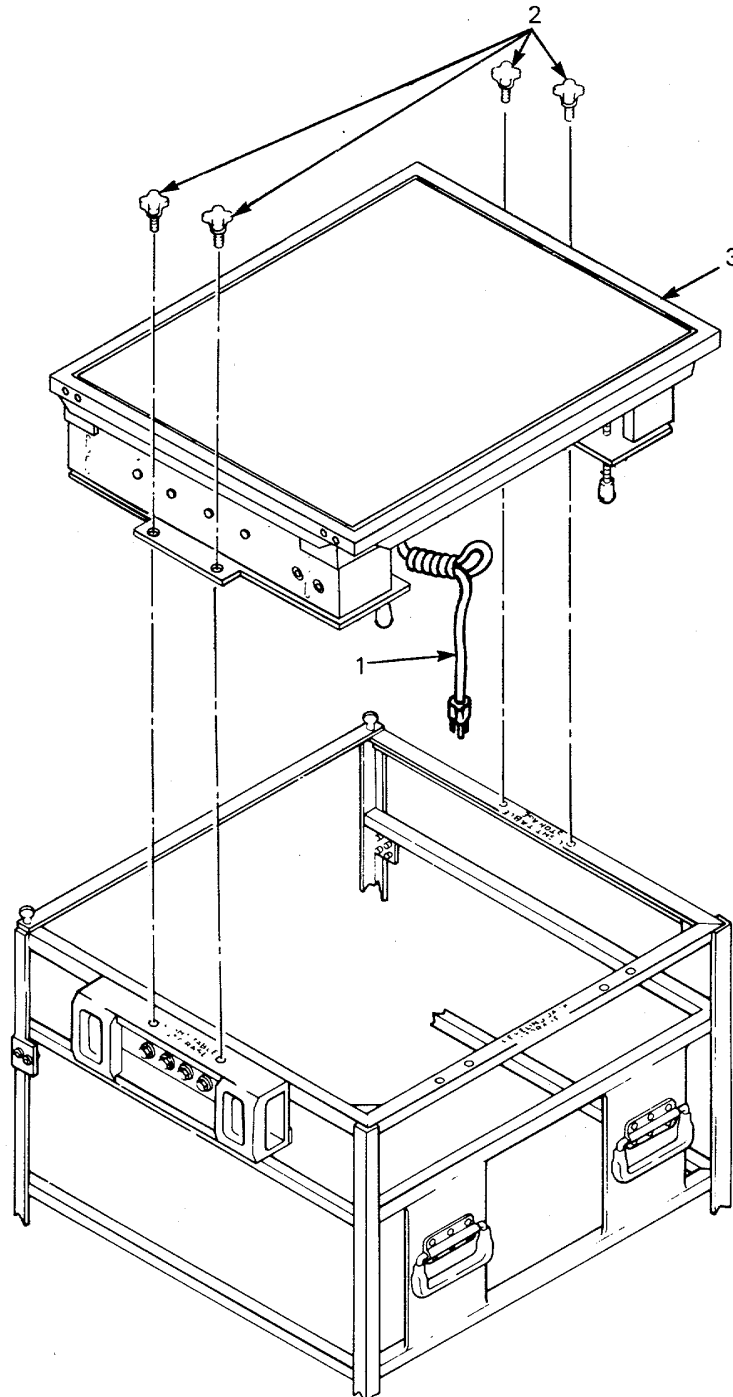

Figure 4-31. Light Table Assembly - Replacement
- a. Inspect. (See Figure 4-31.)
- (1) Inspect light table for security of mounting.
- (2) Check light table glass top for damage.
- (3) Check lights for proper operation.
- (4) Inspect OFF and ON switch for proper operation and for security of mounting.
- b. Replace. (See Figure 4-31.)
- (1) Disconnect power cord (1).
- (2) Remove hand knobs (2).
- (3) Remove light table (3).
- (4) Position replacement light table (3).
- (5) Install hand knobs (2).
- (6) Connect power cord (1) to proper receptacle.